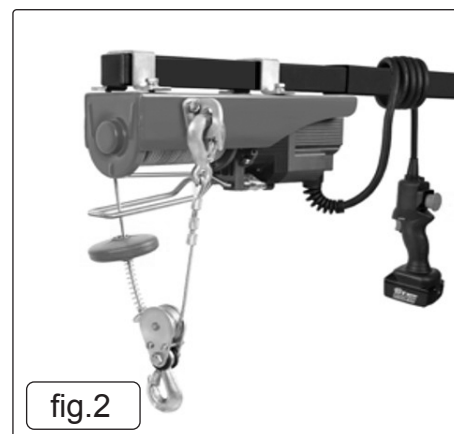

fig.2
A) Install the machine on a steel beam. (fig.2) Use only the enclosed installation brackets which can be attached to the top of the mounting casing using the screws, washers, and spring lock washers. The steel beam must be able to withstand at least double the rated lifting capacity of the cable hoist.